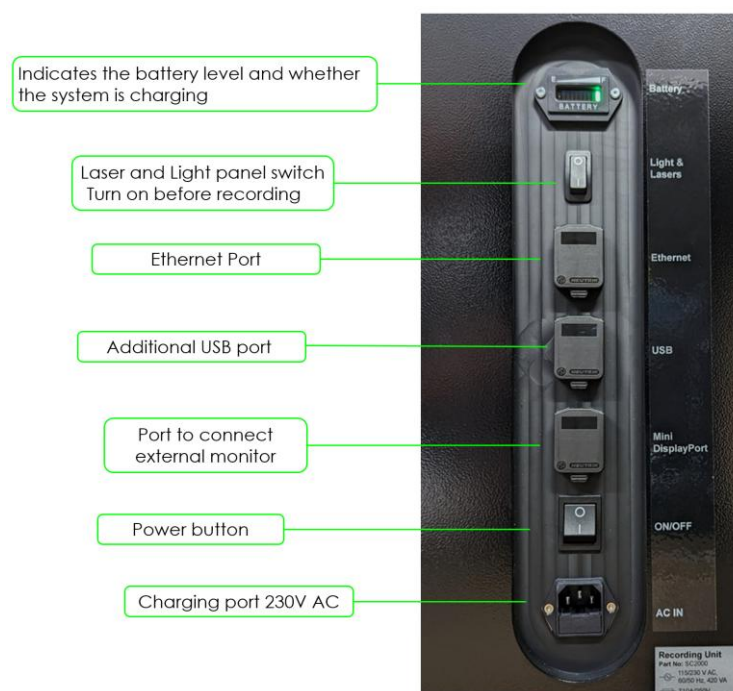

Figure 1 Recording Unit Control Panel
1. Verify the battery level, it should be sufficiently charged. (Figure 1 Recording Unit Control Panel)
2. Power on the device by pressing the Power button. (Figure 1 Recording Unit Control Panel)
4. Activate the laser and lights using the switch Laser & Lights (Figure 1 Recording Unit Control Panel)